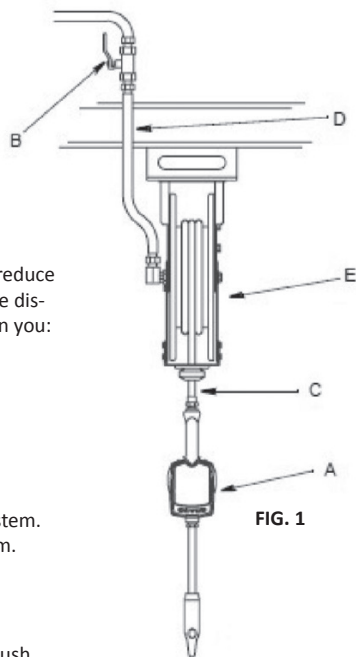

FIG. 1
FIG. 1 shows a typical hose reel installation.
1. Close the fluid shutoff valve (B, FIG. 1) at each dispense position.
5. Slowly open the shutoff valve (B, FIG. 1) at the dispense position. Flush out a sufficient amount of oil to ensure that the entire system is clean. Close the valve.
- 2. Open all dispense position shut-off valves (B, FIG. 1) and start the pump to pressurize the system. See Operation, for proper operation of meter. To ensure dispensing accuracy, purge all air from the fluid lines and dispense valve before you use it.